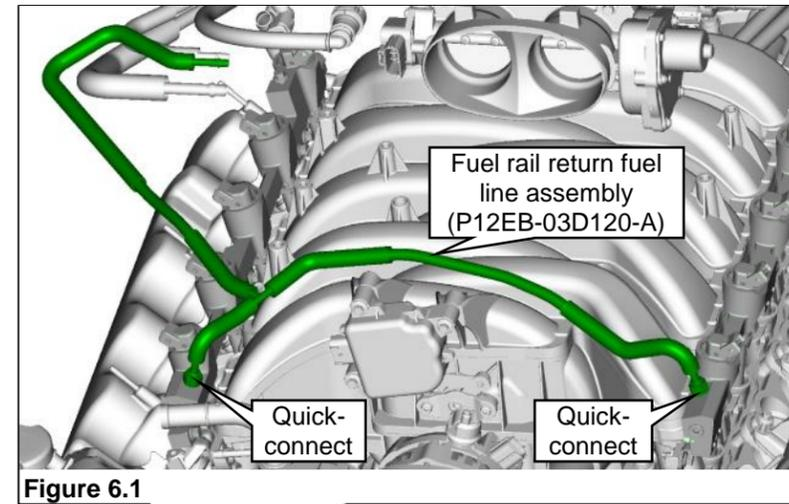

Figure 6.1
6. Orient and install fuel rail return line assembly onto forward ends of fuel rails. Push to connect fittings. **Figure 6.1.**